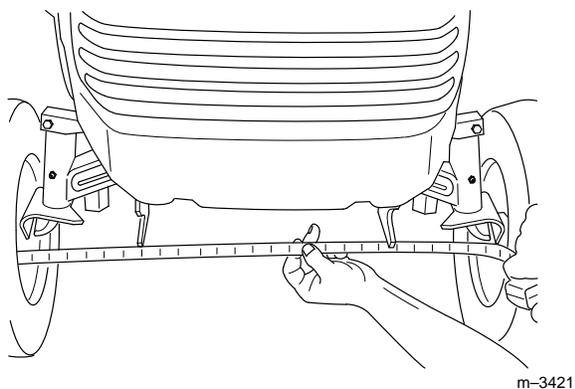

Figure 40
Maintaining correct front wheel toe-in is important for safety, Smart Turn™ Steering operation, and ease of use. If uneven tire wear, lawn scuffing or hard steering develop, adjustment may be required. Check the toe-in after every 100 operating hours or once a year, whichever occurs first (Fig. 40).
4. Measure the distance between both of the front tires at spindle level (at the front and rear of the wheels) (Fig. 40).